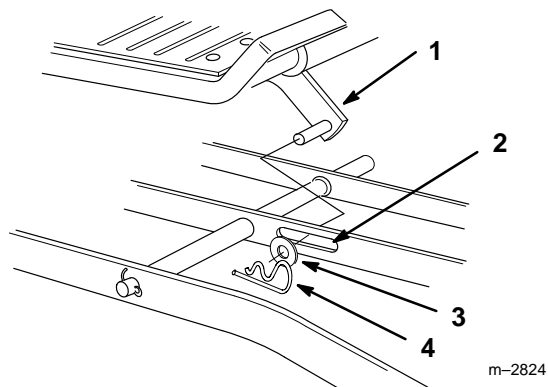

Figure 2
4. Slide the mower under the chassis from the right side and align attachment lift with slot in center lever bar (Fig. 2).
6. Place attachment lift pin into slot in center lever bar and secure with 3/4" (19 mm) washer and hairpin cotter (Fig. 2).